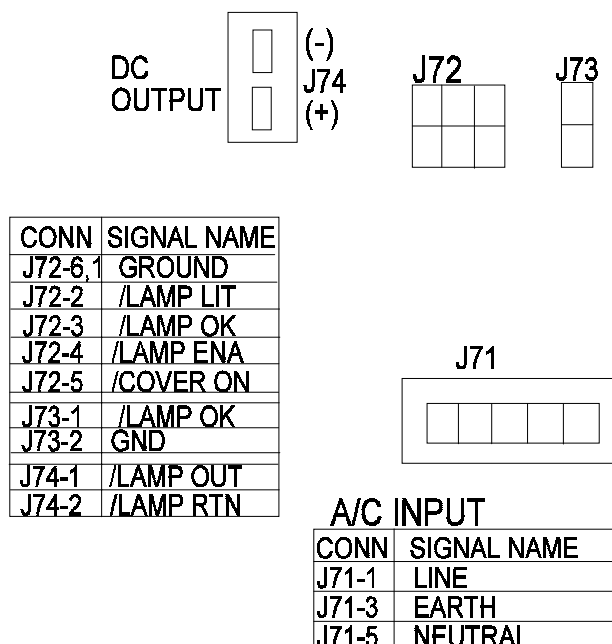

Figure 4-6. Arc Lamp Power Supply connections.
- Label and remove the cables from the DC OUTPUT terminal, J74 (see *Figure 4-6 for cable connections*). Retain the .47 μ fd capacitor, connected across the terminals, to be reinstalled on the replacement power supply.